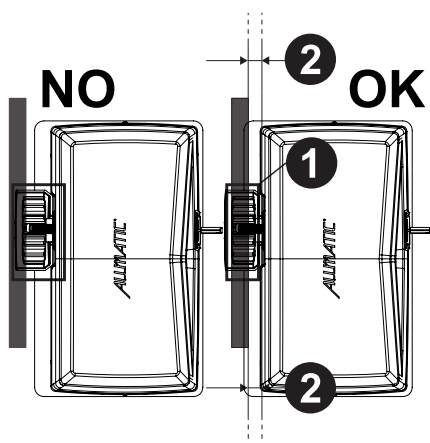

Fig.8
To fix the motor to the counterplate, insert and screw the 4 nuts (Fig. 5). Position the motor in parallel with the gate and with the gear under the rack as shown in Fig. 8.
- 1 WARNING! Position the motor with the pinion under the rack as shown in figure 8